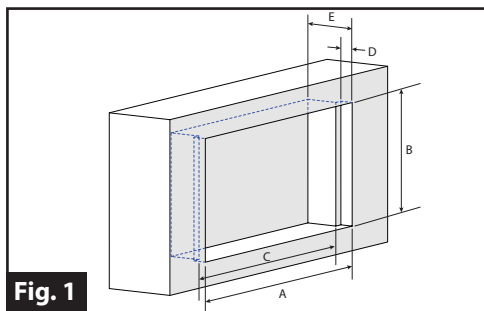

Fig. 1
2. Mark and cut an opening in the cabinet according to the dimensions outlined in Fig. 1.